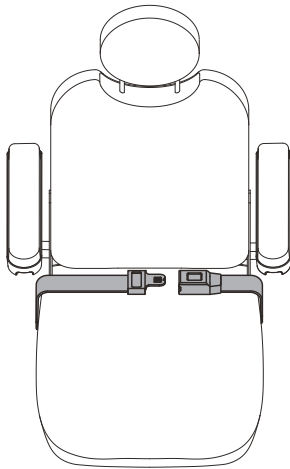

Figure 13. Positioning Belt Adjustment
1. Remove the adjusting screws from each seat hinge. **See figure 13.**
Your power chair may be equipped with a positioning belt that can be adjusted for operator comfort. **See figure 13.** The positioning belt is designed to support the operator so that he/she does not slide down or forward in the seat. The positioning belt is not designed for use as a restraining device.